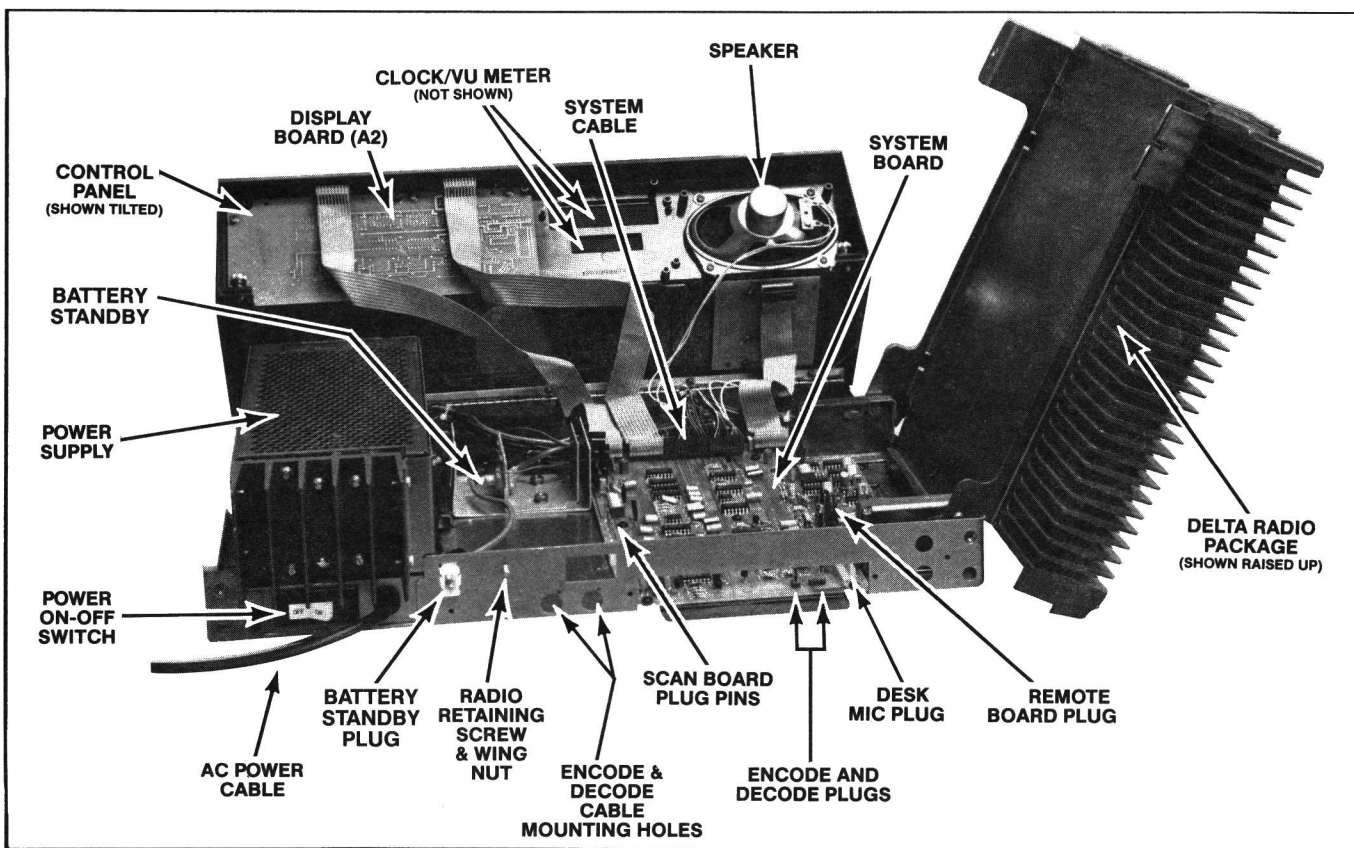

Figure 2 - Station Layout (Rear View, Typical)
1. Remove the desk station top cover (See Figure 2).